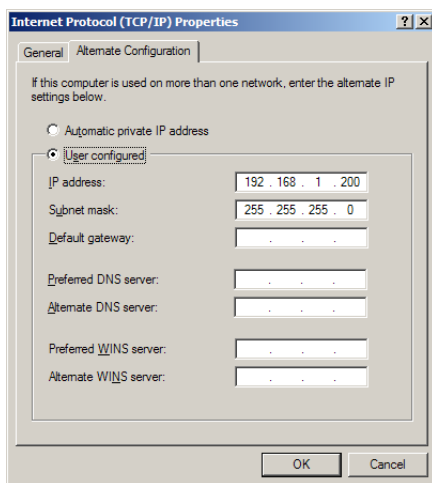

Figure 6-3 Alternate Configuration Settings
5. Select the Alternate Configuration tab. Click the “User Configured” option. See Figure 6-3.